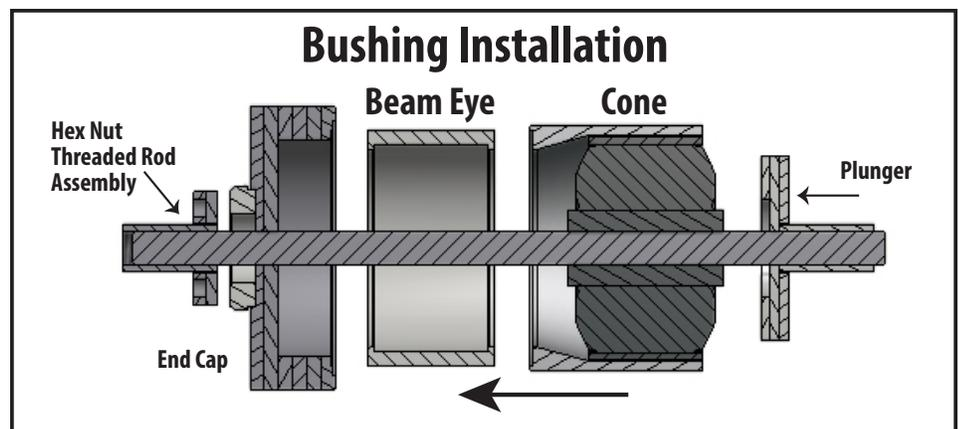

Figure 2.
4. Assemble the bushing replacement tool and place on the eye of the beam (Figure 2).